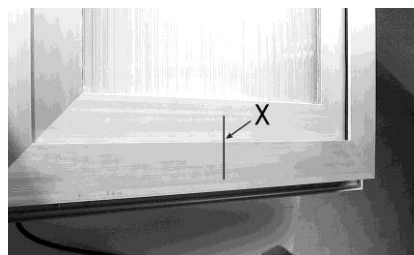

Figure 2
- A. Pencil in an "X" over the centre line of the window frame (*Fig. 2*).